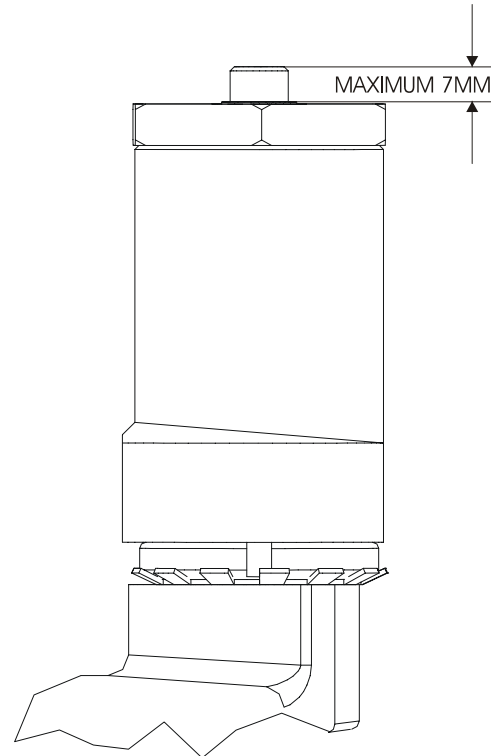

Figure 41 Pin Engagement Measurement
- d. Reconnect the air line and check for correct operation. Correct pin engagement is checked by measuring the distance the pin protrudes from the top of the cylinder cap. This distance should be between 4 and 7 mm (refer to Figure 41) and must not exceed 7 mm.